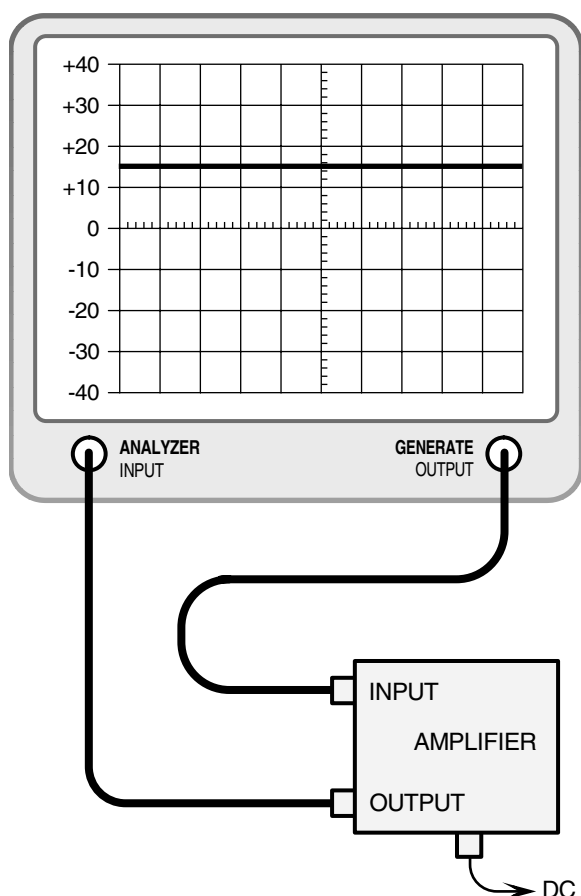

Figure 21: Measuring amplifier gain.
- 3) Connect the equipment as shown in **Figure 21**.